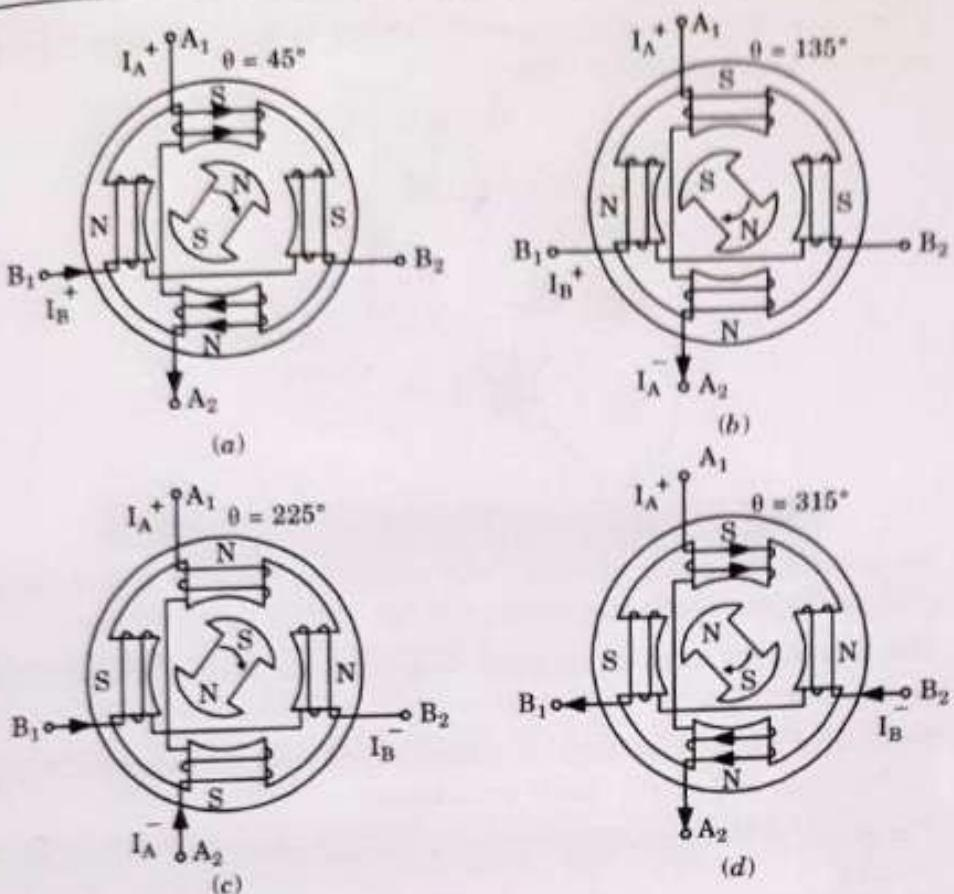

Fig. 2.4.1.
3. Due to this the angular rotation is 45° i.e., $\theta = 45^\circ$. It is shown in Fig. 2.4.1(a).
5. Now the rotor rotates 90° in clockwise direction. It is shown in Fig. 2.4.1(b), here $\theta = 135^\circ$.
7. Now, the rotor rotates another 90° in clockwise direction as shown in Fig. 2.4.1(c), here $\theta = 225^\circ$.
9. Now the rotor rotates 90° in clockwise direction. It is shown in Fig. 2.4.1(d). Here $\theta = 315^\circ$.